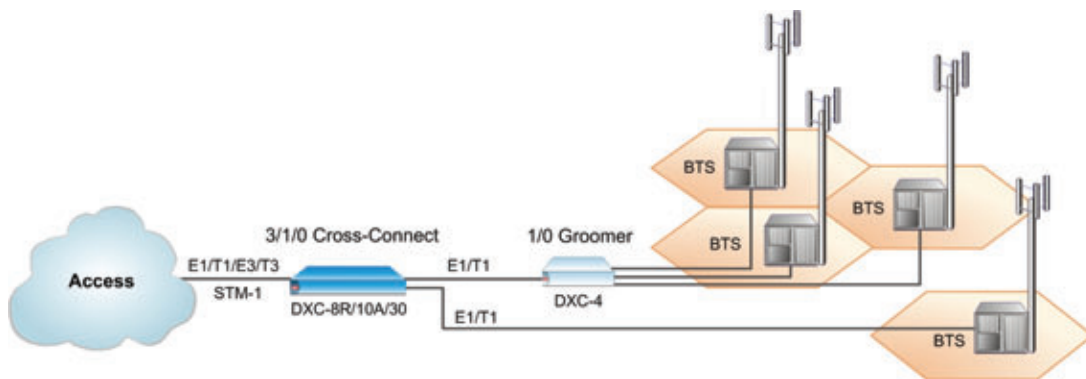

Figure 3. Bandwidth Optimization in a GSM Network Using DXC-8R/10A/30
- Concentrating multiple fractional E1/T1 lines from a cellular base transceiver station (BTS) onto a full E1/T1 link to the mobile switch center (MSC) (see *Figure 3*)